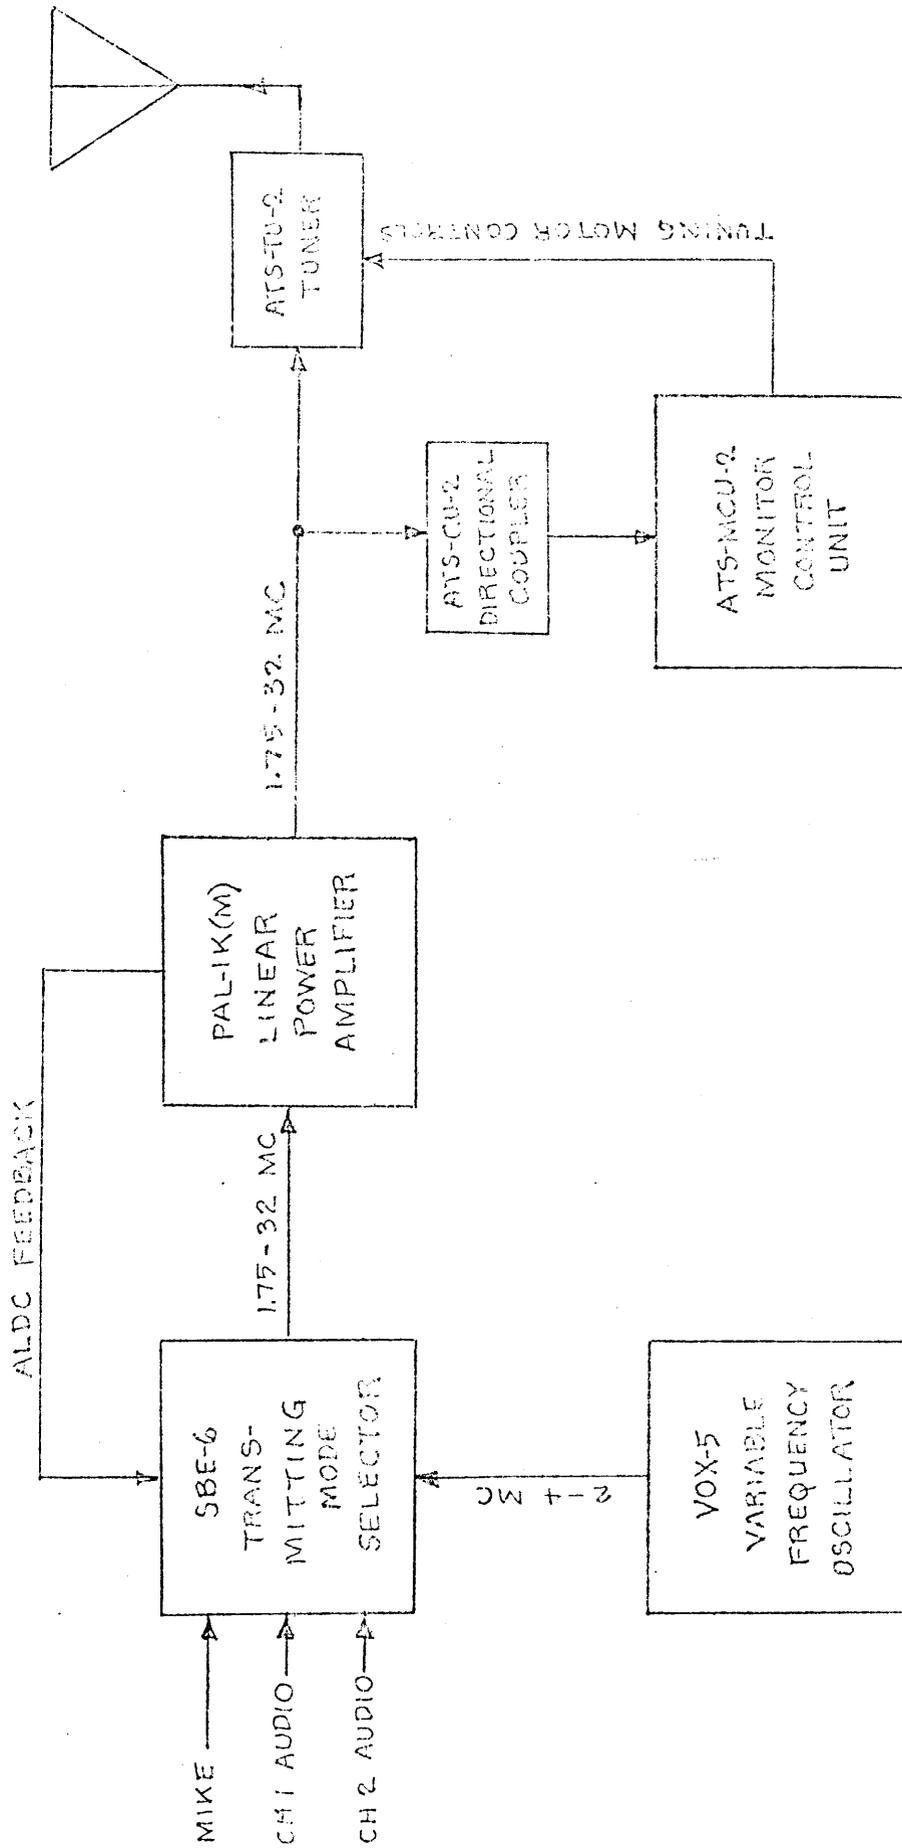

FIGURE 4-1. FUNCTIONAL BLOCK DIAGRAM, SBT-1K(Y)
Figure 4-1 is a functional block diagram of the SBT-1K(V) transmitter, showing the main interrelationships of the ATS-2, PAL-1K(M), VOX-5 and SBE-6. For a complete functional block diagram and schematic diagram of each unit, refer to the individual manual for the unit. Schematic diagrams for AX-198 RF Output Chassis, APP-4 Auxiliary Power Panel and RAK-9B rack wiring are included in the Appendix.
a. CARRIER GENERATION (Figure 4-1). - An r-f carrier, in the 1.75- to 32-mc range, is generated in the SBE-6 and VOX-5. The VOX-5 is used for the SBE-6's MF stage (2-4 mc) injection oscillator in place of its MF XTAL fixed frequency oscillators. Since the VOX-5 is continuously adjustable in the 2-4 mc range, this gives the continuously adjustable feature to the 2-32 mc carrier. The carrier is amplified up to the 1-kw level by PAL-1K(M). The ATS-2 contains tuning circuits to match the output of PAL-1K(M) to a wide variety of antennas. The Monitor Control Unit includes a VSWR indicator and tuning controls which enable a very fine degree of match.
b. CW TRANSMISSION (Figure 4-1). - In CW transmission, a hand keyer enables and disables the 1.75-32 mc amplifier stage in the SBE-6, thus controlling carrier output.
c. SSB TRANSMISSION (Figure 4-1). - In SSB mode, the audio from CH 1, CH 2 or mike modulates the 1.75-32 mc carrier in the SBE-6. Either the upper or lower sideband is sent out with fully or partially suppressed carrier.
d. ISB TRANSMISSION (Figure 4-1). - In ISB mode, two separate intelligence sources (two audio channels or one audio channel and mike) are introduced at the SBE-6 audio input. The two audio channels modulating the 1.75-32 mc carrier are routed to upper and lower sideband circuitry. Transmission consists of upper and lower sideband with either fully or partially suppressed carrier.